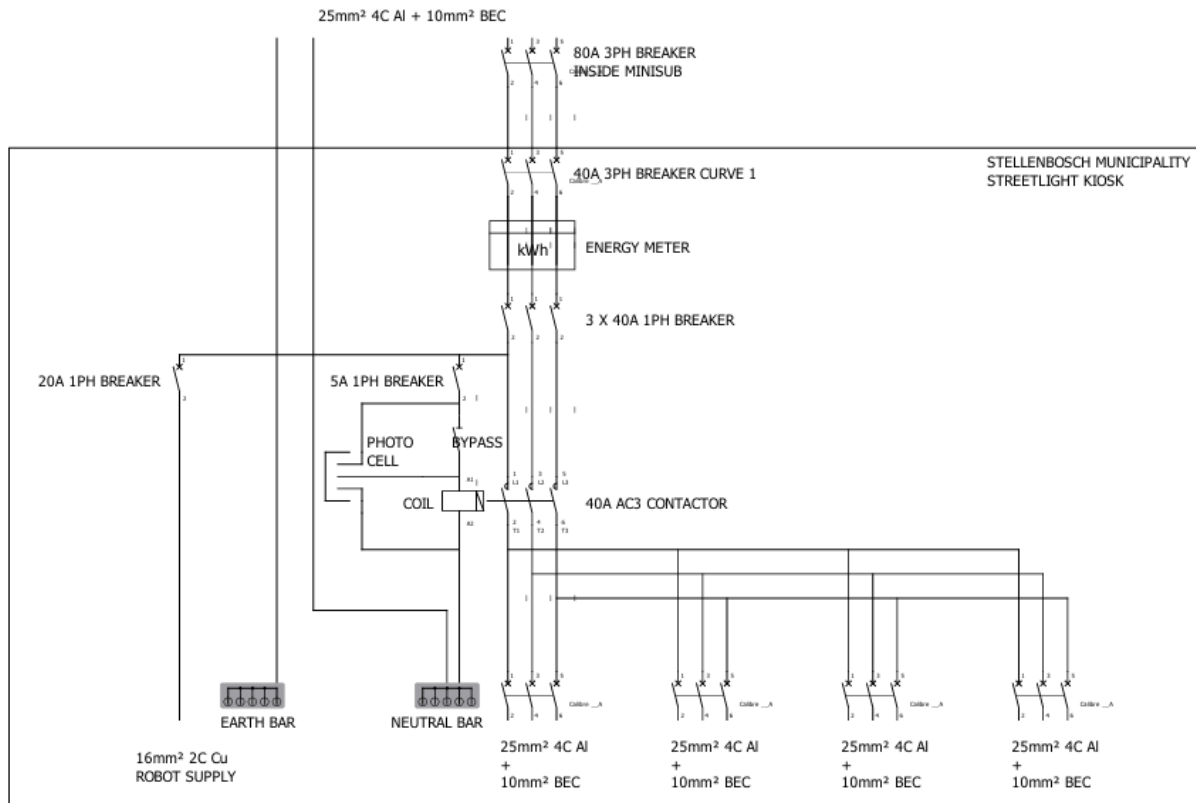

Figure 30
- Manufacturing drawings for the populated kiosk and the mounting back-plate, including a wiring diagram (see example of wiring diagram below in Figure 30)